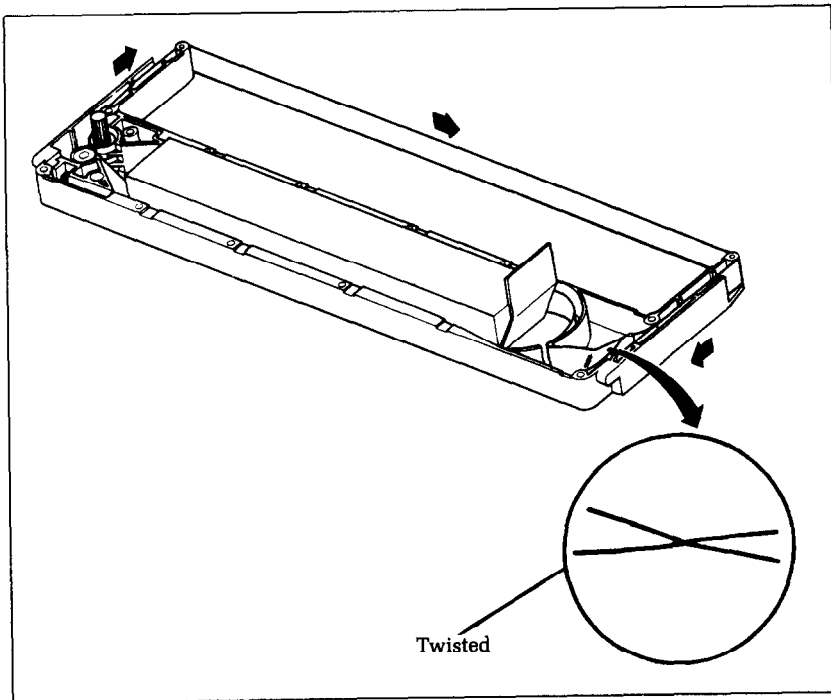

Figure 11-3. Make sure that the ribbon is not twisted when you thread it through its path.
7. Pull out the ink ribbon and set it according to the directions shown by the arrow in Figure 11-3. It's easy for the ribbon to get twisted somewhere along its pathway. Don't let it happen!